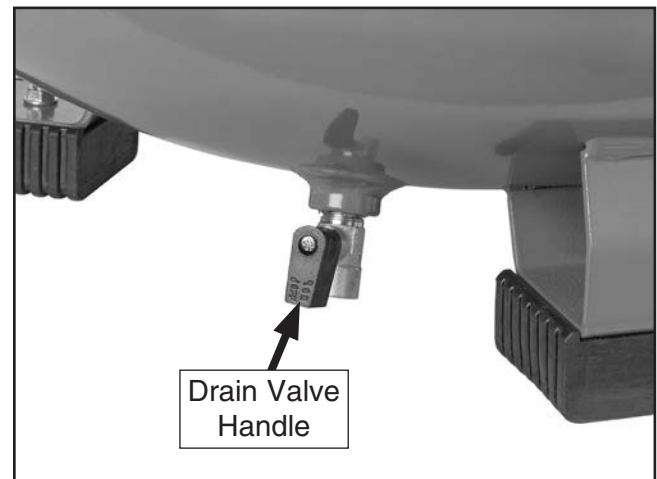

Figure 10. Drain valve handle open.
4. Turn drain valve handle to open position (see **Figure 10**).